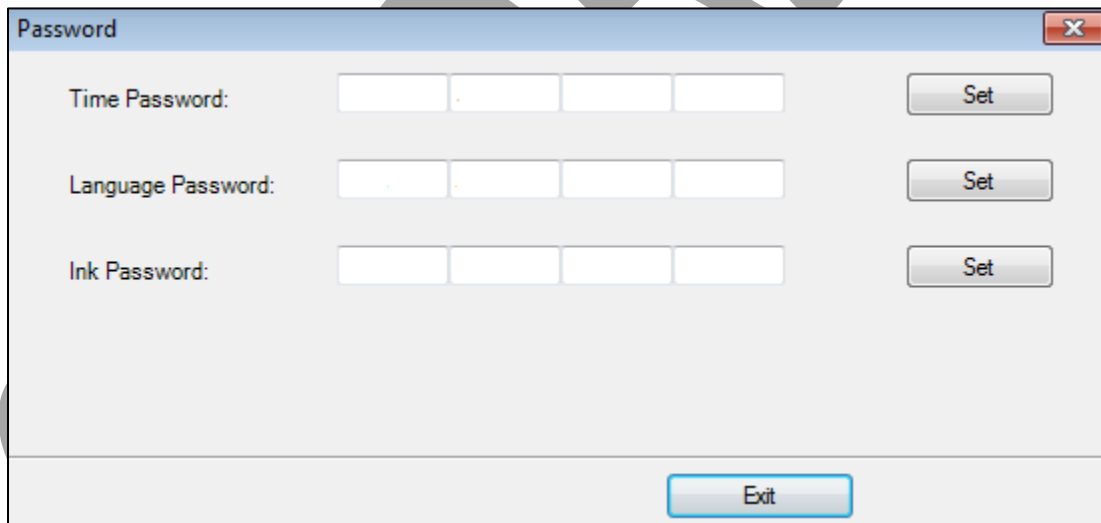

Fig 28: The Password Window
Step 2: Set values in the **Time Password** field as per the requirements (Refer to Fig 28).
Step 3: After feeding the passwords, click on the **Set** button in front of both the options (Refer to Fig 28).
Step 4: Click on the **Exit** button to close the **Password** window (Refer to Fig 28).
- Password Screen (Refer to Fig 28)